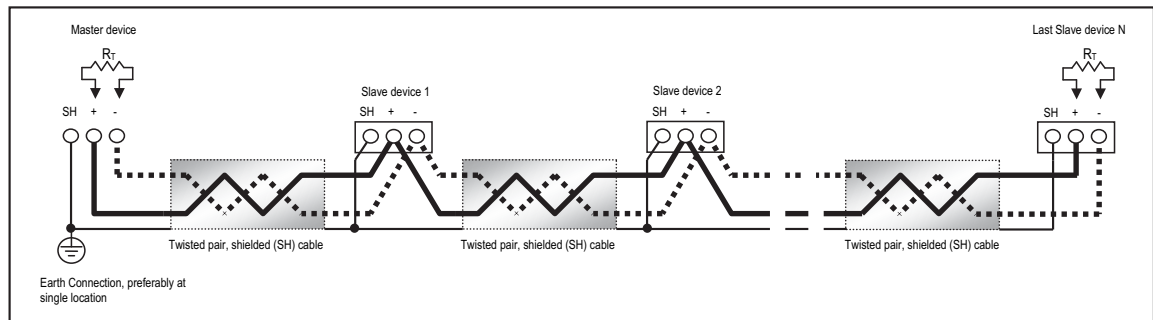

Figure 5-4: RS485 Daisy Chain Connection
- Connect shield to RS485 Master and individual devices as shown in Figure 5.4. You may also connect the shield to earth-ground at one point.
**Termination Resistors (RT) may be needed on both ends for longer length transmission lines. However, since the meter has some level of termination internally, Termination Resistors may not be needed. When they are used, the value of the Termination Resistors is determined by the electrical parameters of the cable.**
Figure 5.4 below, shows a representation of an RS485 Daisy Chain connection.